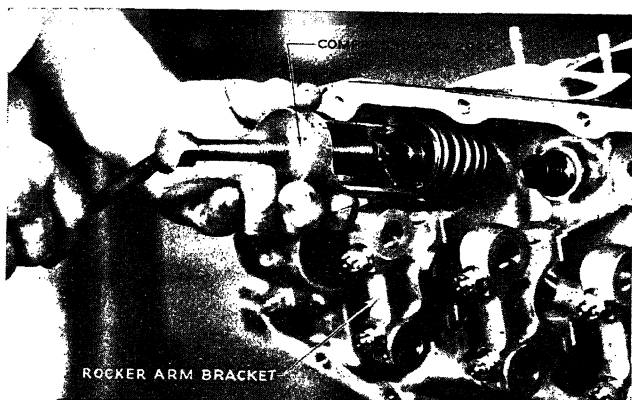

Fig. 12.—Using spring compressor to remove valves.
**Valves.**—Valves can be easily removed and replaced by using a spring compressor, as in Fig. 12. This makes it easy to remove the spring retainers from the valve stems. The valves are then taken out through the cylinder. Valves are also replaced by reversing the process.